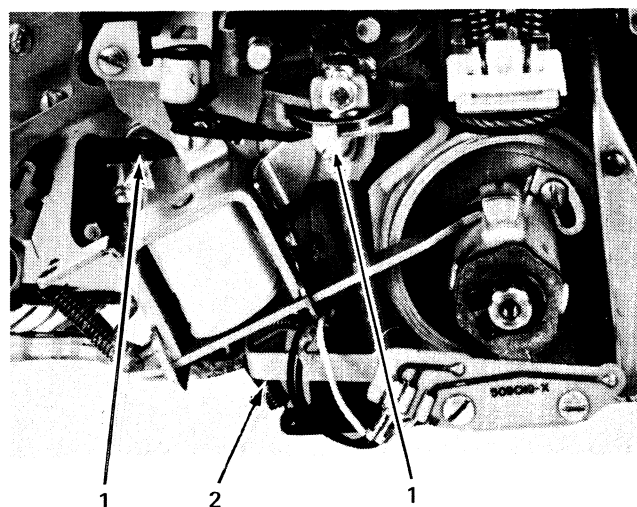

Figure 4-48. Shift Cam Removal (Right Side of Printer)
2. Remove the two screws (No. 1, Figure 4-48) and remove the shift magnet assembly.
3. Remove the cam detent spring (No. 2, Figure 4-48).